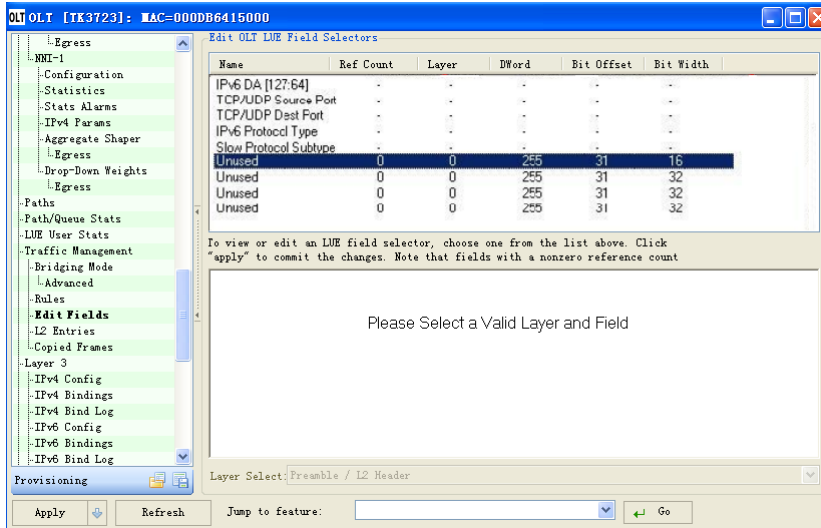

Figure 8-2 Unused Field Window
- 2) Select one of the unused selectors on the top of the right operation panel shown in the Figure 8-2;